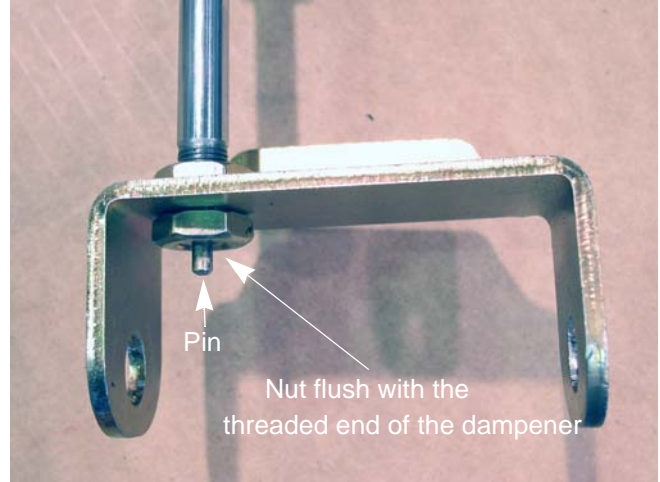

Figure 6.103
1. Attach the pivot bracket to the end of the dampener using a pair of 17 mm wrenches. See Figure 6.103.
NOTE: This dampener has a locking feature. The pin extending from the threaded end of the dampener releases the dampener so that it can extend or retract. See Figure 6.103.